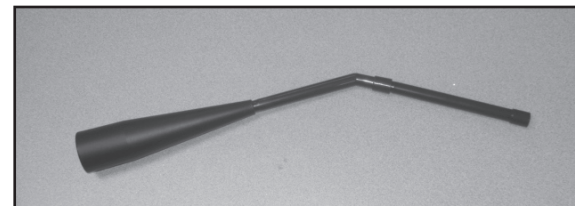

Figure 17.4
- Assemble the crevice tool from the micro cleaning kit to attach to a Shop Vac. **Figure 17.4**.